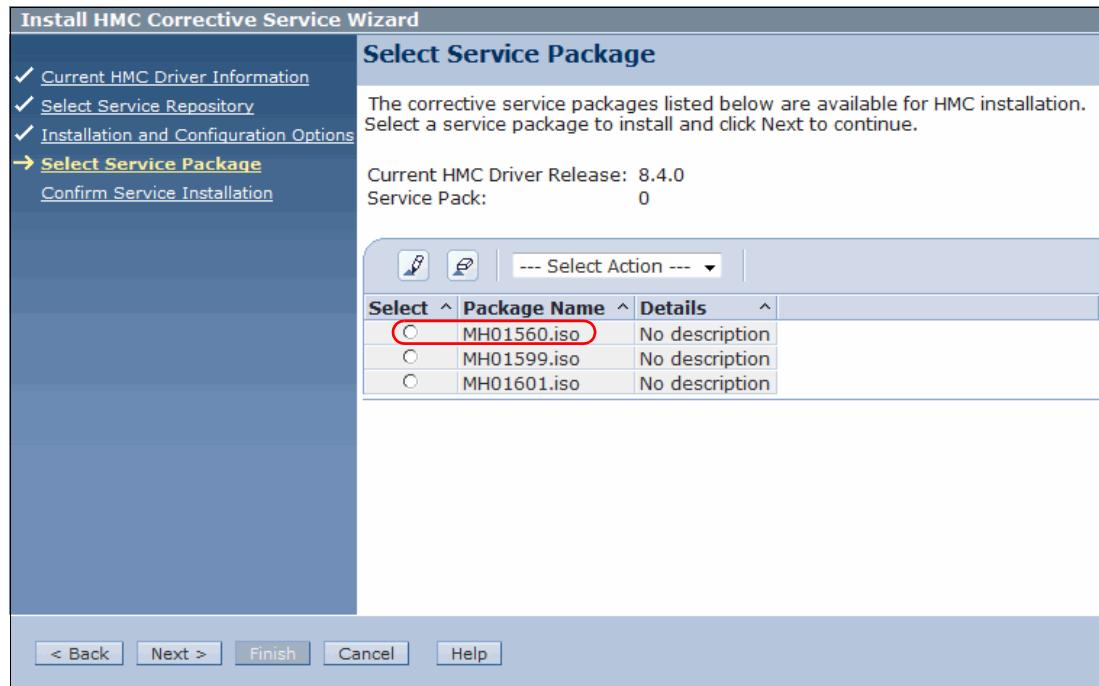

Figure 3-119 Select Service Package
6. In the Select Service Package panel (Figure 3-119), choose the fix in the Package Name column (in this example, it is the **MH01560** fix) and then click **Next**.
**Note:** The package names listed in Figure 3-119 are valid *only* at the time of writing this publication. They might no longer be available on the Fix Central website.